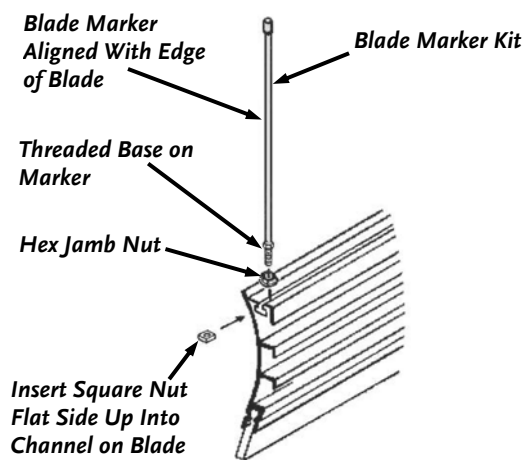

Figure 9
18. Turn hex jamb nut (flange facing down) onto threaded base of marker (**Figure 9**).